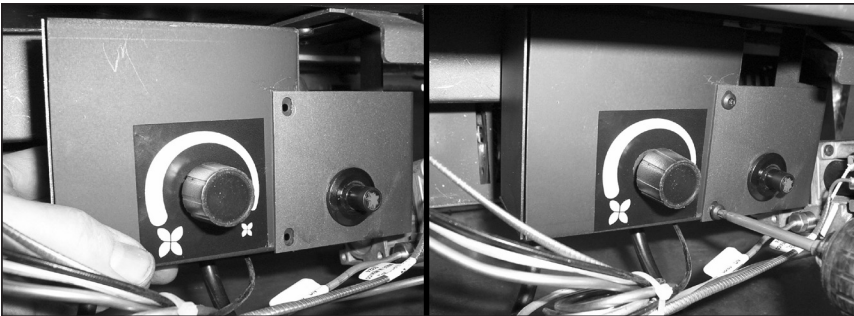

Figure 56. Install Fan Control Box.
5. Using two (2) T-20 screws, attach the fan control box to the ignitor control panel, refer to Figure 56. Before tightening the screws ensure that the thermal switch on top of the box firmly contacts the firebox bottom.